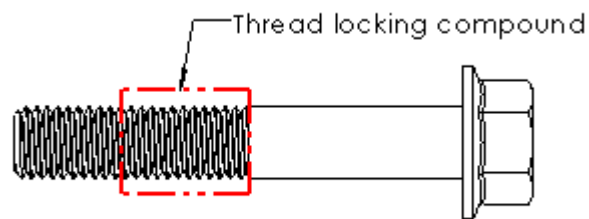

Figure 3
- G.** Apply a thread locking compound to the bolt thread as shown in figure 3 below: